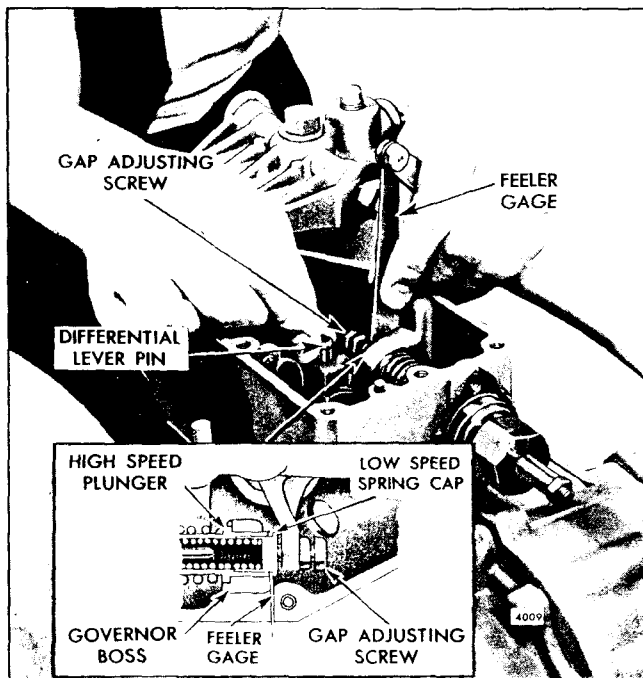

Fig. 2 - Adjusting Governor Gap
5. Start and run the engine between 900 and 1050 rpm by manual operation of the differential lever as shown in Fig. 2. This gap setting range is required because of the lighter low-speed weights and heavier high-speed weights.
6. With the engine operating between 900 and 1050 rpm, set the gap between the low-speed spring cap and the high-speed spring plunger (Fig. 2) at .0015" by adjusting the gap adjusting screw in the operating shaft lever. If the setting is correct, the .0015" movement can be seen by placing a drop of oil into